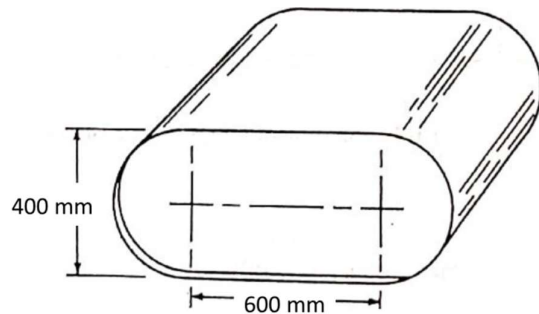

Fig.Q.5(b)
- Q.5(b) A tank shown in Fig.Q.5(b) is fabricated from 1 mm thick steel sheet. Calculate the longitudinal and circumferential stresses caused by an internal pressure of 500 kPa. [4] CO2 Apply